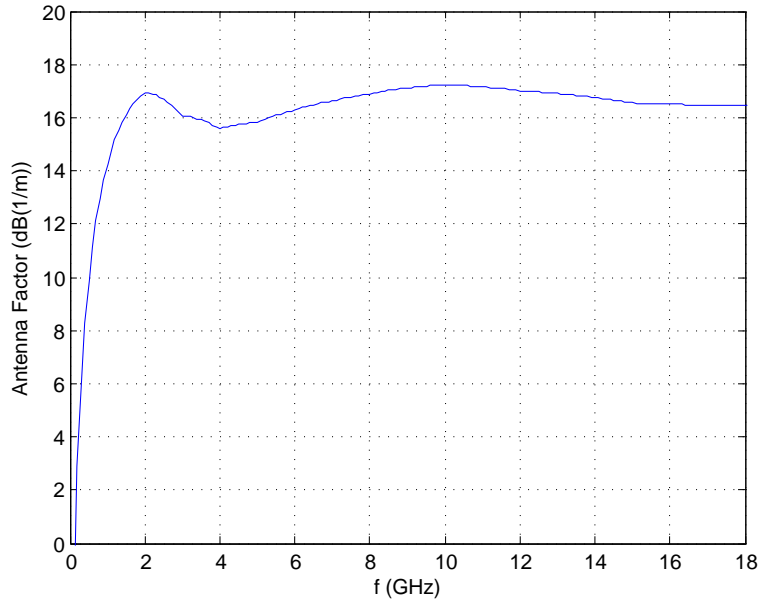

Figure 4: Computed antenna factor.
Using this gain fit, the resulting antenna factor is plotted in figure 4 versus frequency, according to equation (3).